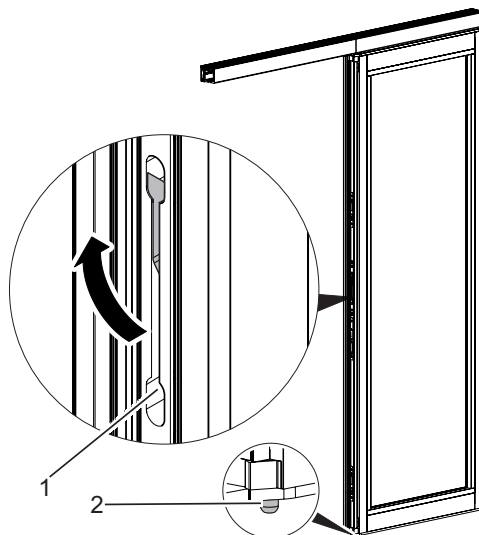

Fig. 5: Operating the flush bolt
- ☞ Panels bordering pivoting end panels or single action sliding panels are locked via a locking device in the door panel (flush bolt Fig. 5/1).
1. Move the flush bolt on the side of the sliding panel upward (Fig. 5/1).
- ▶ The locking bolt (Fig. 5/2) will be pulled upward.